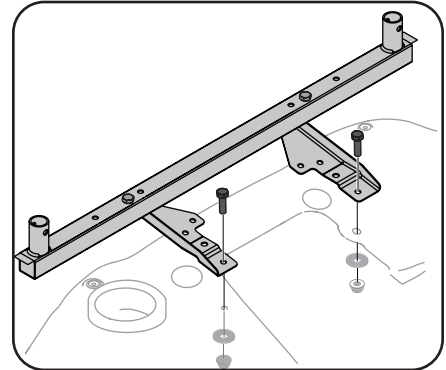

Figure 3-5
4. Use two Hex Head Capscrews (710-0376), two Washers (736-0159), and two Nuts (712-04063) to install the Support assembly on rear of tractor as shown in Figure 3-5.